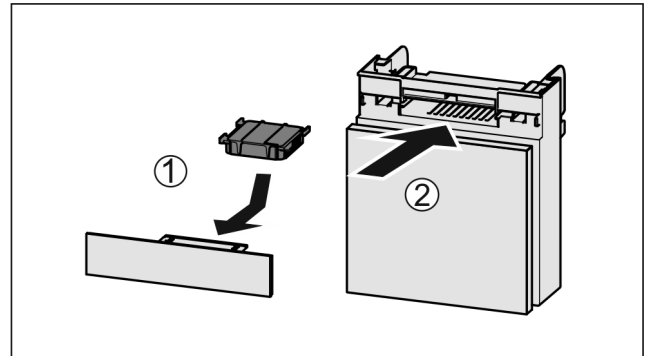

Fig. 238
- ▶ Insert the carbon filter as shown in the diagram Fig. 238 (1).
- ▶ Push the compartment in Fig. 238 (2).